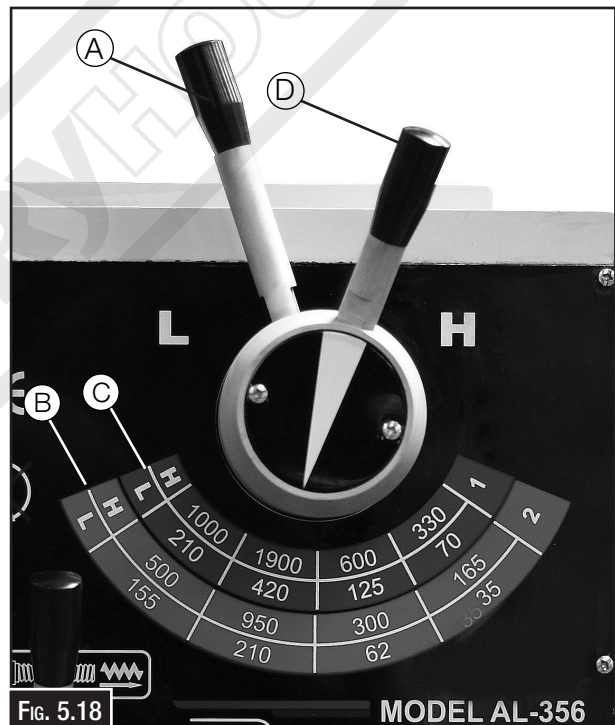

Fig. 5.18
1. Set the High/Low lever. (A in Fig. 5.18)
Low 35 - 210 rpm. range (B in Fig.5.18,19)
Low 70 - 420 rpm. range (C in Fig.5.18,19)
High 165 - 950 rpm. range (B in Fig.5.18,19)
High 330 - 1900 rpm. range (C in Fig.5.18,19)
2. Speed dial lever selects the speed in the scale displayed. (D in Fig. 5.18)